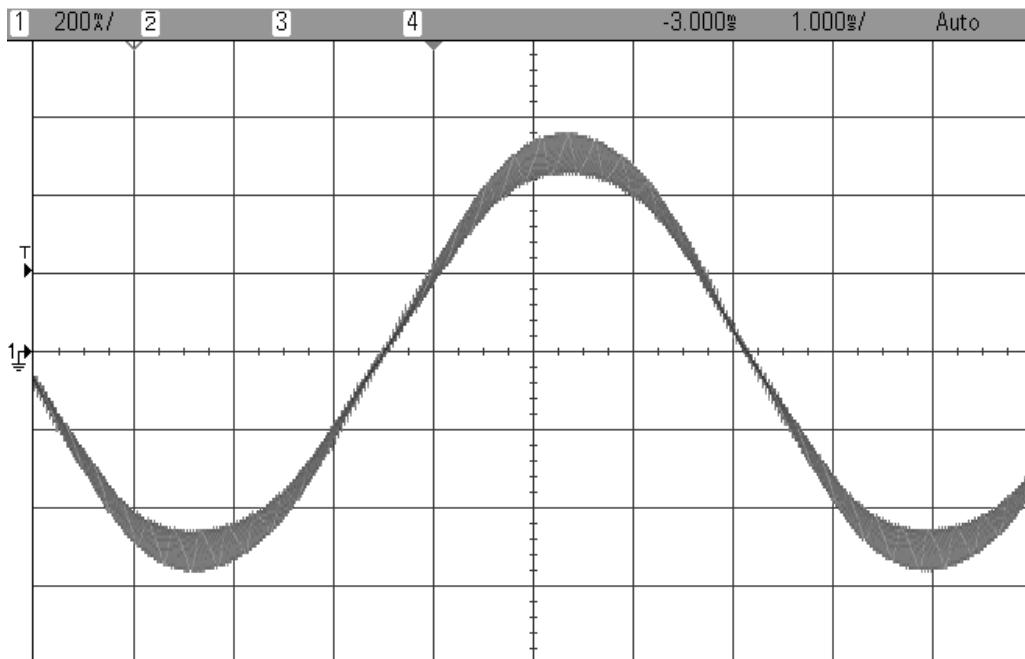
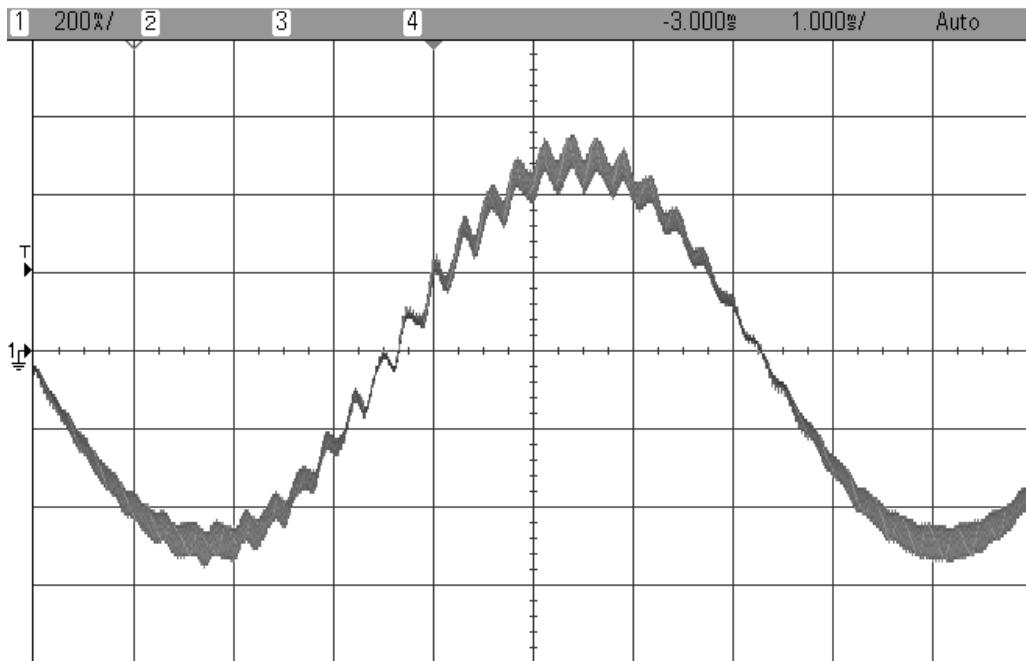

Figure 48: K_p^{series} setting that has been calculated at 1/20th of the bandwidth.
Figure 49: K_p^{series} setting that is too high, resulting in the controller becoming unstable.
As the bandwidth increases, the sampling delay more negatively affects the phase margin of the controller, causing the control loop to become unstable. **Figure 48** is a plot of the motor current waveform with a stable K_p^{series} setting. As K_p^{series} increases, the phase margin of the control loop becomes smaller. After a while, the control loop becomes unstable and starts to oscillate as shown in **Figure 49**. The current controller gain should not be set to this high of a value. When current loop instability occurs, lower the K_p^{series} gain until the current waveform is like the one in the following figure.
- When the motor makes the high pitch noise, the current waveform looks like that in **Figure 49**.